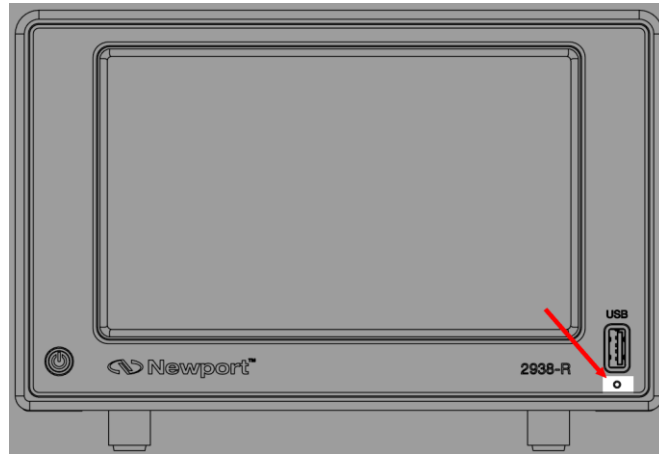

Figure 4-18 Right side of x938 Meter with pinhole highlighted
4. Insert a pin in the pinhole (see Figure 4-18) to access the micro-switch.